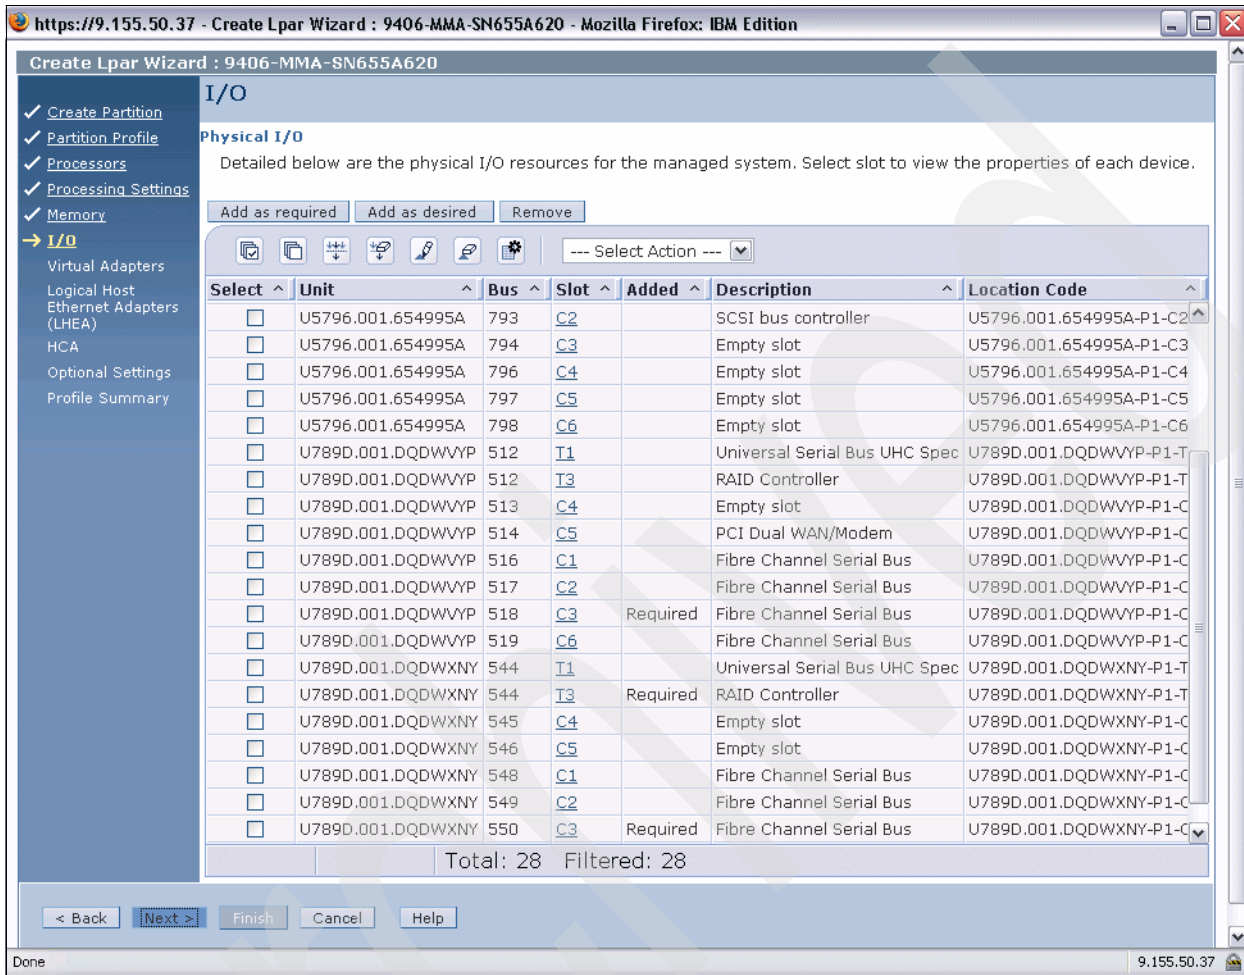

Figure 6-9 Create LPAR I/O dialog
- In the I/O dialog we select the CEC's internal RAID controller in slot T3 and two FiberChannel adapters, one from each CEC's slot C3 before choosing **Add as required** and clicking **Next** to continue, as shown in Figure 6-9. The RAID controller provides us the with internal SAS drives that we use for installing VIOS and also the DVD-RAM drive.